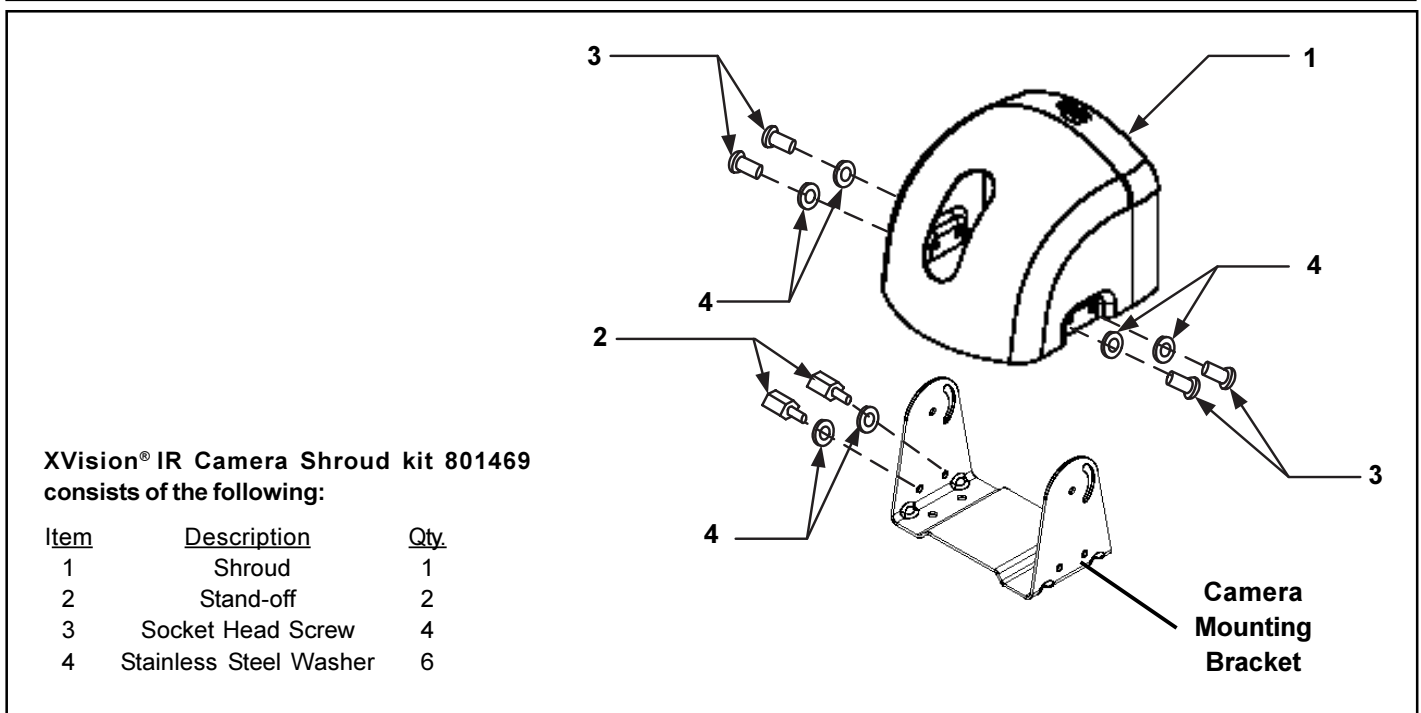
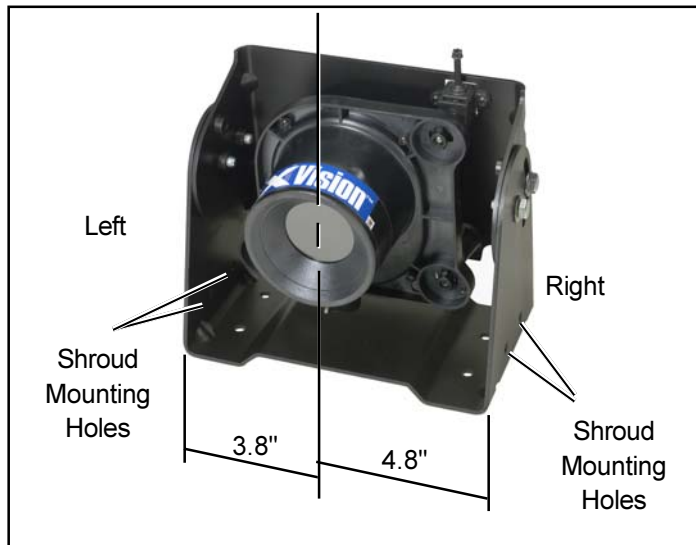
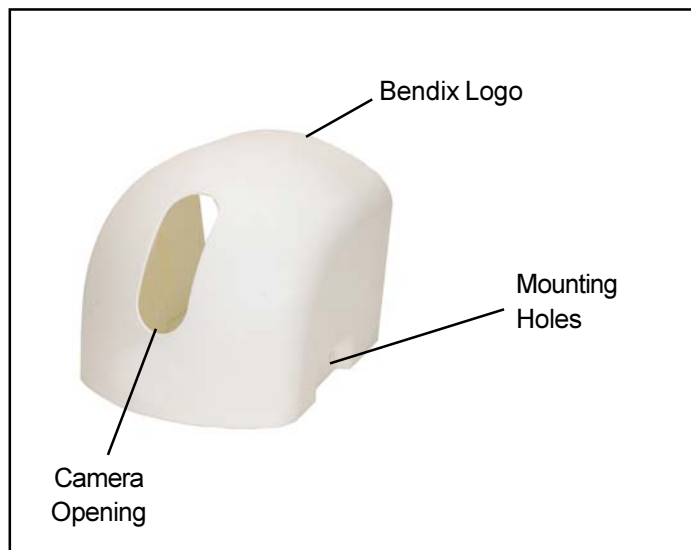

Figure 1 XVision® IR Camera Shroud Kit
Figure 2 XVision Camera and Bracket Offset
Figure 4 XVision® IR Camera Shroud
The XVision® camera is offset in the camera bracket as shown in Figure 2. To ensure proper alignment of the camera window with the shroud opening, the two stand-offs(2) must be installed on the camera mounting bracket before the camera shroud(1) is installed. See Figure 1.
1. When mounting the camera bracket on top of a vehicle in the position shown in Figure 2. Position the bracket with the standoffs up and the adjustment slots toward the back. On the left side of the mounting bracket install two stainless steel washers(4) and stand-offs(2). Tighten to approximately 90 in-lbs.
If positioning the mounting bracket on the vehicle in a position different from Figure 2, identify the proper location of the stand-offs before mounting them to the bracket. Measure from the center of the camera window to the mounting bracket standoff to determine the offset location. For example, if the camera bracket is installed upside-down in the mounting bracket the stand-offs would be added to the right side of the bracket to ensure proper centering of the shroud.
2. Position the camera shroud(1) over the camera with the Bendix logo positioned upward when used as shown in figure 2. See Figure 4.
3. Secure the shroud(1) with the washers(4) and socket head screws(3). Tighten to approximately 90 in-lbs.